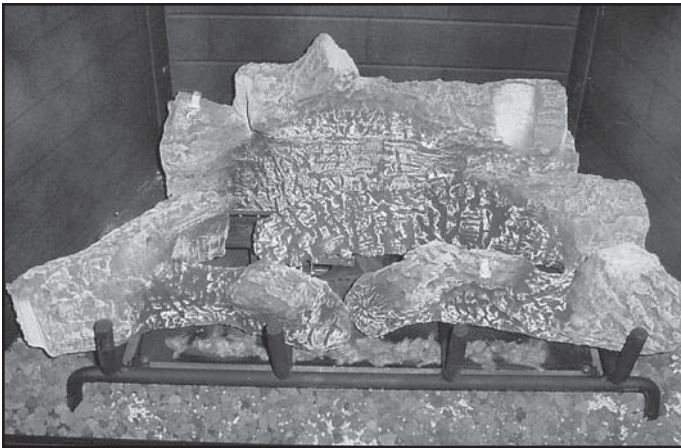

Figure 14.5 Base Logs
- Base logs have been permanently mounted on the grate assembly and should not be moved. See Figure 14.5.